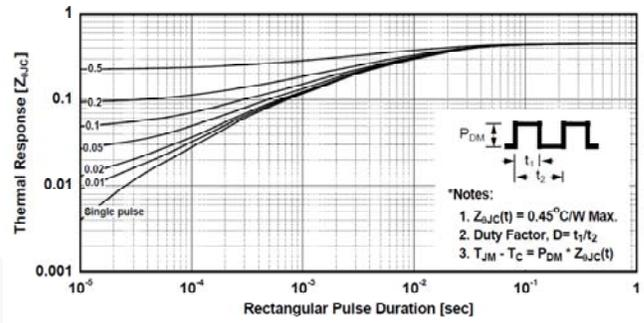
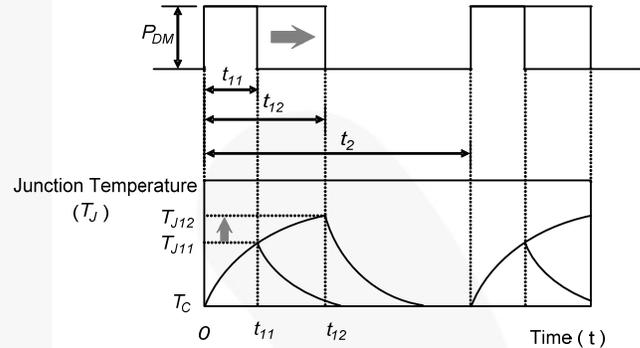

Figure 27. Transient Thermal Response Curve
Figure 28. Resistance; Charge in Junction Temperature due to Conduction Time
Figure 27 shows the thermal response curve. As shown in Figure 27, the graph of the thermal response, shows the change of junction-to-case thermal impedance ( $Z_{\theta JC}(t)$ ) due to the change of the square-wave pulse duration with a few duty factor conditions.  $Z_{\theta JC}(t)$  determines the junction temperature rise with the equation (14). (considering power dissipation to be a constant value ( $P_{DM}$ ) during the conduction period, it becomes saturated to the maximum value of ( $R_{\theta JC}$ ) as it reaches low frequency or DC operation where the duty factor  $D=1$ ). Figure 28 shows the junction temperature rise with the increasing duty factor.